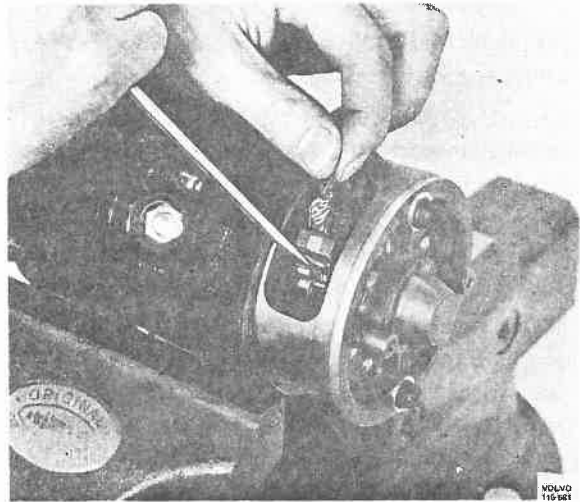

Fig. 33-9. Removing the electric brushes
2. Remove the screws securing the brushes and pull the brushes up out of their holders, Fig. 33-9.